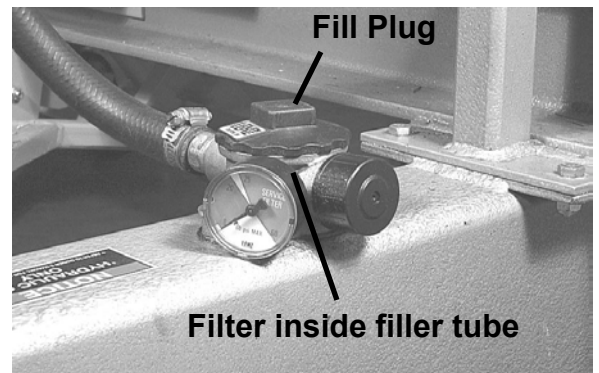

Figure 23
2. Remove the filler plug and then remove the filter element inside the filler opening (*Figure 23*).